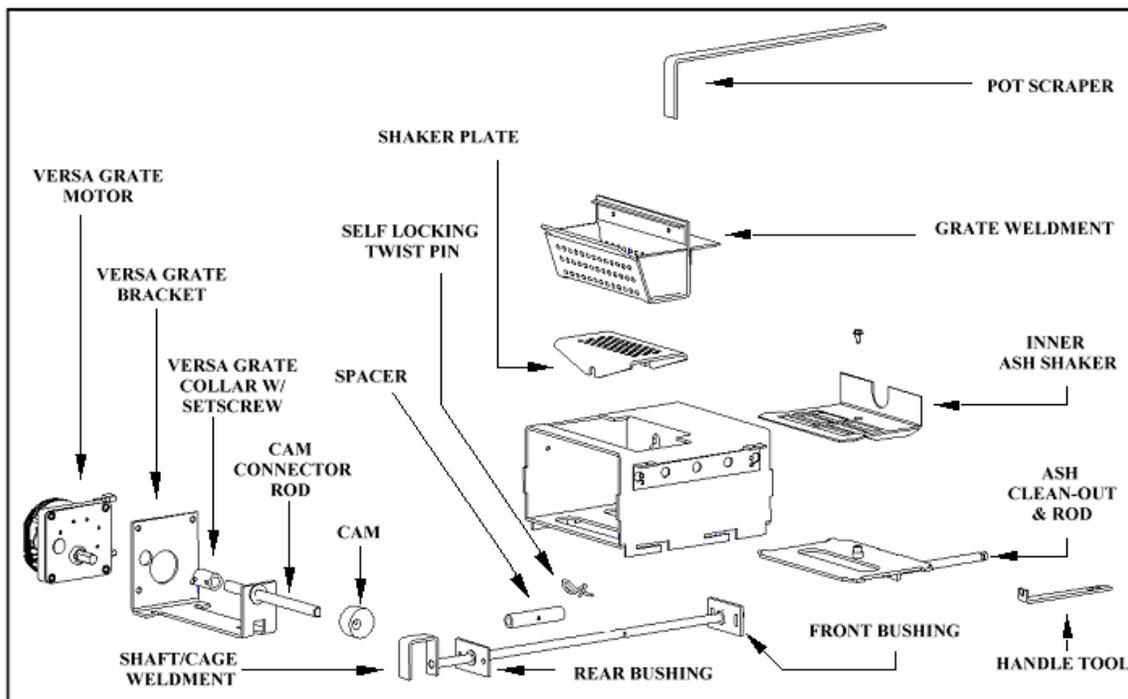
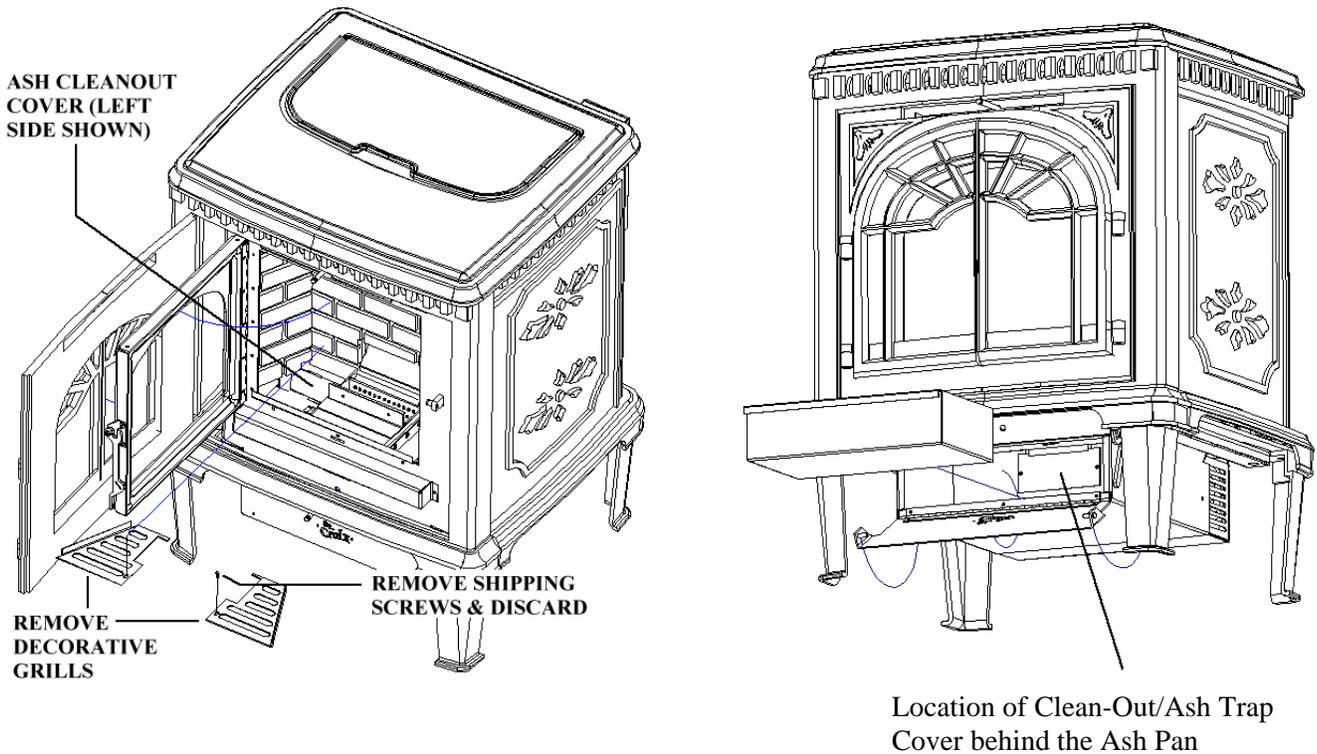

Figure 5
Figure 7
The Versa Grate System (see Figure 5 below). The benefit of this feature is that the stove can operate for longer periods of time, with most
First, let's become familiar with the burn system in a St. Croix Pellet stove. Remember, cleaning frequency may change dramatically from one fuel to another. Pellets with high ash content or that have increased amounts of impurities or high moisture content. Every St. Croix Pellet stove model will have the same system as shown in figure 5 below. There is a 2-piece burnpot. The top Part is called the **"Grate Weldment"**. This sits on top of the **"Shaker Plate"**. This in turn sits on top of the **"Shaft/Cage Weldment"** and is held in place with the **"Spacer"** & **"Self Locking Twist pin"**. The Shaft/Cage weldment is moved towards the front of the stove and then towards the back of the stove by the **"Cam"** that is connected to the **"Versa Grate Motor"**. This motion is constant, while the stove is in operation. The only parts that may need to be removed for cleaning purposes during the Daily or Periodic Maintenance are the **"Grate weldment"** and the **"Shaker Plate"**. This is to check the holes in the burnpot system to see if they are plugged.
1. Check Grate Weldment and Shaker Plate (See figure 5) to determine if holes are plugged. Clean as needed. With proper precautions the grate may be partially cleaned while the stove is hot. Follow these steps:
- d. Use the “scraper” provided to move the burning pellets to one side of the grate, leaving the ash in the bottom of the grate. (See Fig 5 & 6)
2. The Hastings has 3 Ash Trap cleanouts. 2 are located below the rear brick panel. Remove covers and clean regularly. (See Figure 7 below) Be sure to clean both sides. Use scraper shown in figure 5 & 6 to scrape ash into ash pan. Use a vacuum (cold stove only) to thoroughly clean these areas. The other Clean-out is located behind the Ash Pan. (See figure 7 below)
3. Clean burn grate holes at least weekly. Remove the burn grate and use a small metal object to clean out plugged holes. (See fig. 5 on page 9.)
1. **Spring Shutdown.** After the last burn in the spring, cool the stove. Remove all pellets from the hopper and the auger. Thoroughly clean the burn grate, burn grate box, ash pan and ash traps behind the ash pan. (*To locate the ash traps see Figure 7 on page 11*)